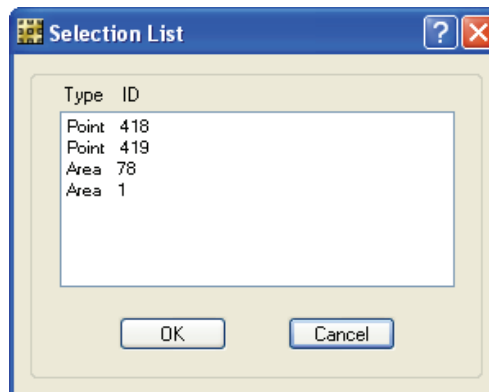

Figure 25 Selection List form
- H. Hold down the **Shift** key on your keyboard and **right** click once at the end point of the wall just drawn. A selection list similar to the one shown in Figure 25 appears because multiple objects exist at that location. In this example, two point objects and two area objects exist at the same location. Note that the selection list will appear only when the **Shift** key is used with the click.